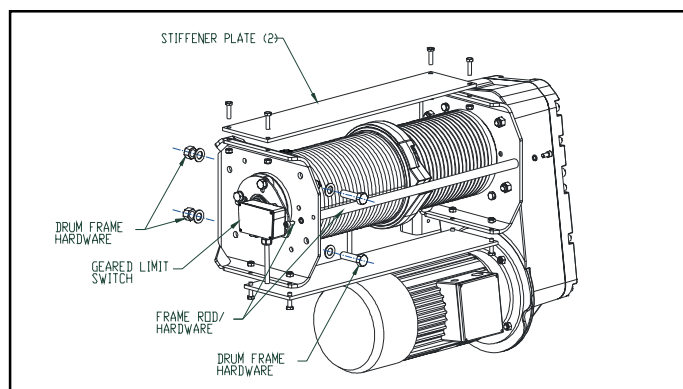

Figure 5-6. Drum Frame & Geared Limit Switch ("B" & "C" Frame Shown)
- Remove the geared limit switch or disconnect the wires so that the electrical cable will not inhibit removal of the drum. (see Figure 5-6).
- Remove the unit from service, place it on the ground and provide adequate means to support the drum before removing the frame rod cap screw(s) and stiffener plate hardware ("B" & "C" Frame only) at the outboard end drum frame (see Figure 5-6).